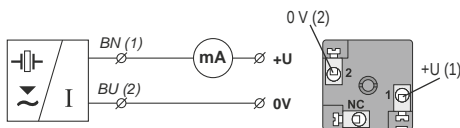
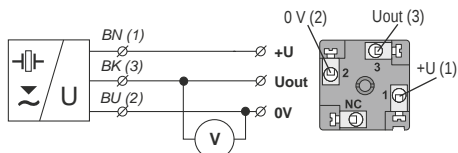
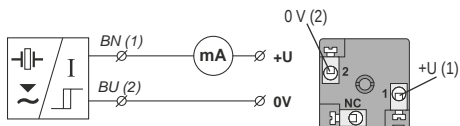
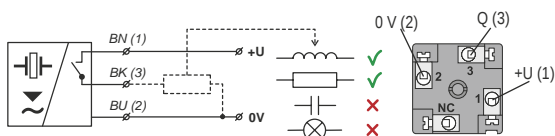

Fig. 16: Connection diagram of the CPC-U-53 level meter (variant -I) and inside view of the connector
Fig. 17: Connection diagram of the CPC-U-53 level meter (variant -U) and inside view of the connector
Fig. 18: Connection diagram of the CPK-U-53 sensor with S type output (two-state current switch 4 mA / 20 mA)
Fig. 19: Connection diagram of the CPK-U-53 sensor with P type output (PNP) with an open collector
The CPC-U-53 level meter or CPK-U-53 level sensor with a G type cable gland are connected to processing (display) units by means of a cable with an outer diameter of 6 to 8 mm (recommended wire cross-section 0.5 to 0.75 mm2), via a detachable ISO connector with inner screw terminals, which is part of the delivery. The connection diagram and the inner view of the connector are shown in Fig.16 and 17. Non-detachable connector IP67 with PVC cable 5 m long can be supplied as an extra option.
4. Connect the cable wires to the screw terminals as shown in Fig. 16 (current output 4-20 mA), Fig. 17 (voltage output 0-10 V), Fig. 18 (S type output) or Fig. 19 (P) type output. Tighten the terminals firmly.